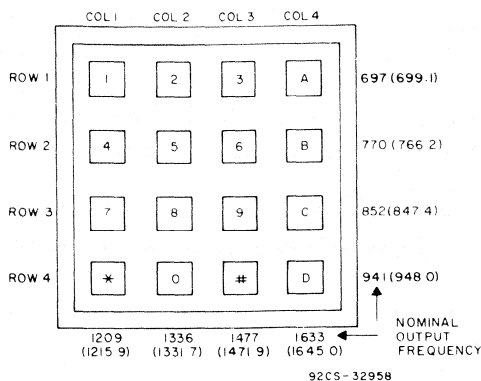

Fig. 1 - Bell and nominal output frequencies (in parenthesis) for 3.579545-MHz crystal.
- Refer to Fig. 1 for standard DTMF frequencies.